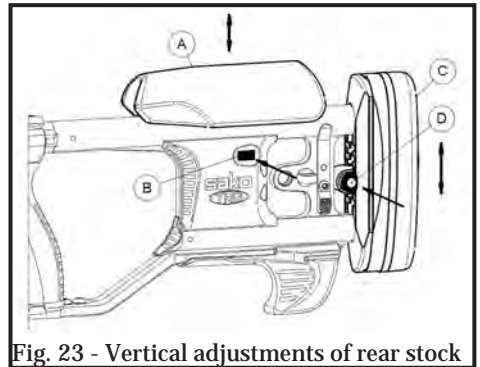

Fig. 23 - Vertical adjustments of rear stock
1. Press Catch B (Fig. 23) either on the left or right side of the rear stock below the cheek piece.
2. The spring-loaded cheek piece (A) can be lowered or raised to the desired position in 3mm increments.
3. Height adjustment can be locked down with a Torx T10 set screw either on the left or right side of the catch (B).
1. Press and hold Button D (Fig. 23) located on the left side of the rifle in front of Recoil pad C.